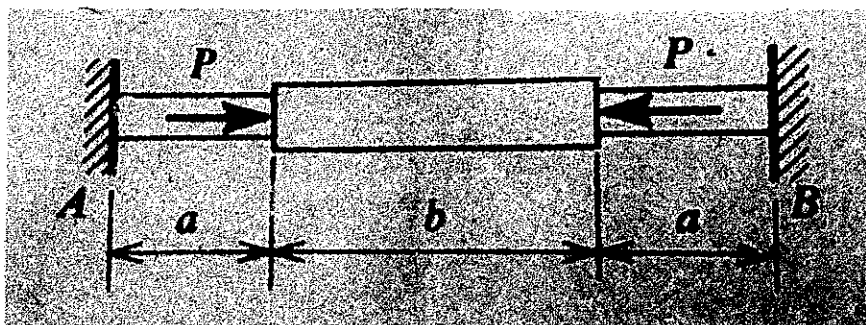

Figure 2
- (15%) A rod AB as shown in Figure 2 is attached to the wall in both ends. If it is loaded by the axial forces P as shown, determine the stress at the middle of the bar. The cross section areas are A_b for part b (the middle part) and A_a for part a (both ends).